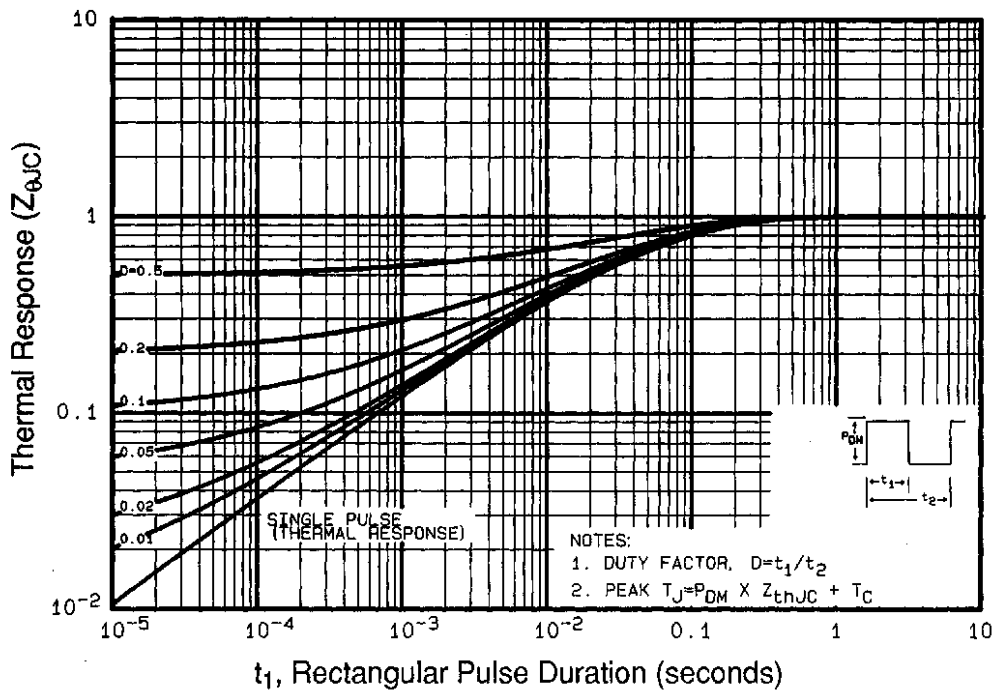

Fig 11. Maximum Effective Transient Thermal Impedance, Junction-to-Case
① Repetitive rating; pulse width limited by max. junction temperature (See Figure 11)
③ $I_{SD} \leq 28A, di/dt \leq 170A/\mu s, V_{DD} \leq V_{(BR)DSS}, T_J \leq 175^\circ\text{C}$